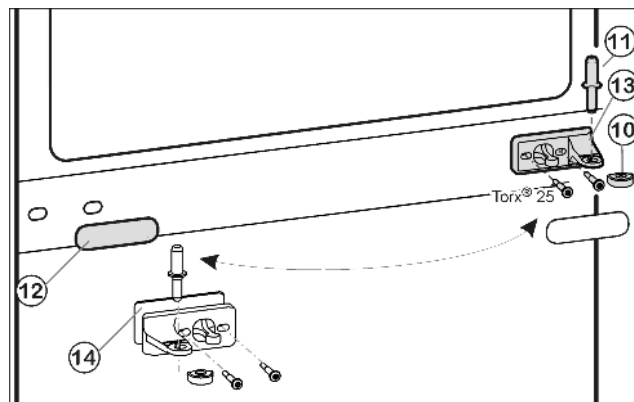
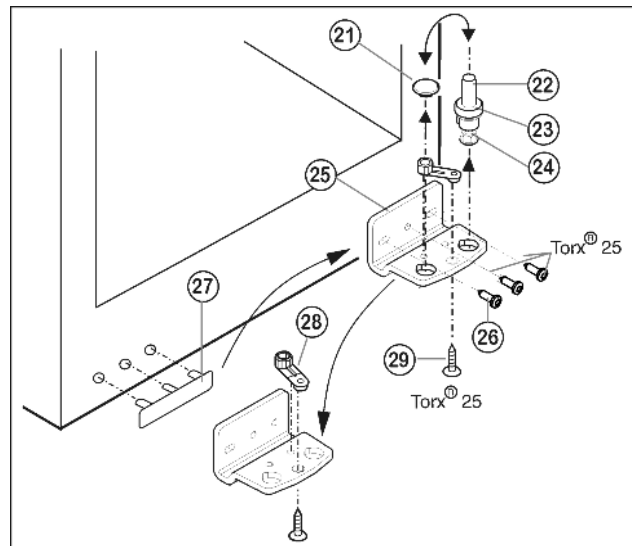

Fig. 5
Fig. 6
- ▶ Draw the middle bearing pin Fig. 5 (11) out of the turn hinge and lower door.
- ▶ Remove the plastic cap Fig. 5 (10).
- ▶ Unscrew the middle turn hinge (2x Torx® 25). Fig. 5 (13)
- ▶ Carefully detach the cover panel Fig. 5 (12).
- ▶ Turn the middle turn hinge Fig. 5 (13) with the washer Fig. 5 (14) through 180° and screw it firmly into place on the new hinge side (with 4 Nm).
- ▶ Turn the cover panel Fig. 5 (12) through 180° and snap it into place again on the new handle side.
- ▶ Lift out the bearing pin Fig. 6 (22) together with washer Fig. 6 (23) and foot Fig. 6 (24).
- ▶ Lift off the stopper Fig. 6 (21).
- ▶ Unscrew Fig. 6 (26) the turn hinge Fig. 6 (25).
- ▶ Unscrew Fig. 6 (29) the bearing element Fig. 6 (28), transfer it to the opposite location hole of the turn hinge and screw it firmly into place.
- ▶ Carefully lift off the cover on the handle side Fig. 6 (27) and transfer it to the opposite side.
- Screw the turn hinge *Fig. 6 (25)* firmly into place on the new hinge side, possibly using a cordless screwdriver (**with 4 Nm**).
- Re-insert the stopper *Fig. 6 (21)* into the other hole.
- Re-insert the bearing pin *Fig. 6 (22)* together with washer and foot. In so doing, pay attention that the locating lug points backwards
- Place the lower door from above onto the lower bearing pin *Fig. 6 (22)*.
- Place the plastic cap *Fig. 5 (10)* back onto the middle turn hinge *Fig. 5 (13)*.
- Place the middle bearing pin *Fig. 5 (11)* in the lower door, on the new hinge side, through the middle turn hinge *Fig. 5 (13)*.
- Place the upper door on the middle bearing pin *Fig. 5 (11)*.
- If necessary, align the doors to the appliance housing by way of the two oblong holes in the bottom turn hinge *Fig. 6 (25)* and middle turn hinge *Fig. 5 (13)*. To do so, unscrew the middle screw in the bottom turn hinge *Fig. 6 (25)*.